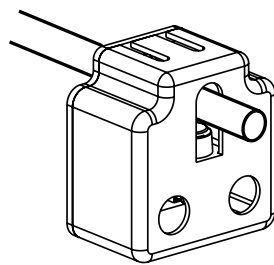

Fig. 7
appropriate dimension. Install (4) 3/8"-16NC x 3/4" HHCS & 3/8"-16NC Flanged Locknuts, do not tighten. Slide Switch Box over switch bar ensuring knock out holes face the power unit column. Use (2) 1/4"-20NC x 3/4" lg. HHCS, 1/4"-20NC Nuts and 1/4" Star Washers to mount switch box to overhead, see Fig. 7. For SPOA10 Extra Narrow Bay Setting installation, see step 7b, all others go to step 7c. 7b. For Extra Narrow Bay installation only: Cut off 11" from the length of the bar and cushion on the end opposite the 1/4" mounting hole(s). Continue to step 7c.